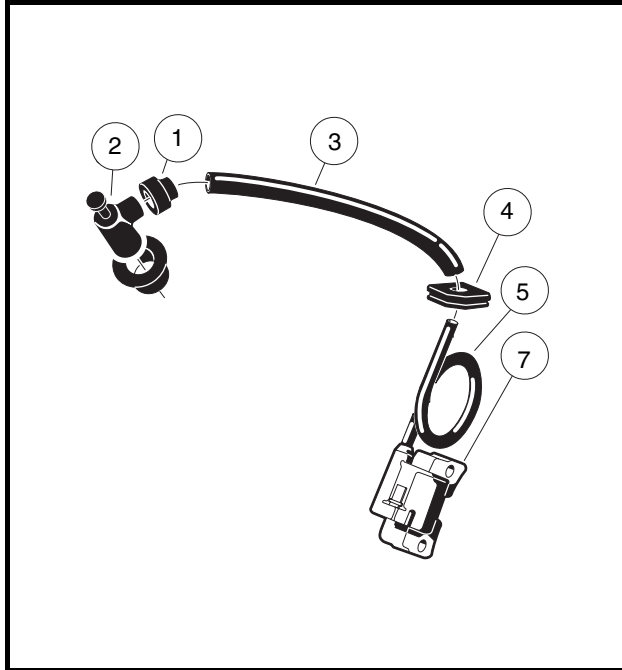

Figure 11-26 Ignition Coil and Cap
- 5.1. Remove the rubber gasket (1) on the plug cap (2) by rolling back the gasket onto the spark plug wire (3) (**Figure 11-26, Page 11-25**).
- 4.1. Remove the rubber gasket (1) on the plug cap (2) by rolling back the gasket onto the spark plug wire (3) (**Figure 11-26, Page 11-25**).